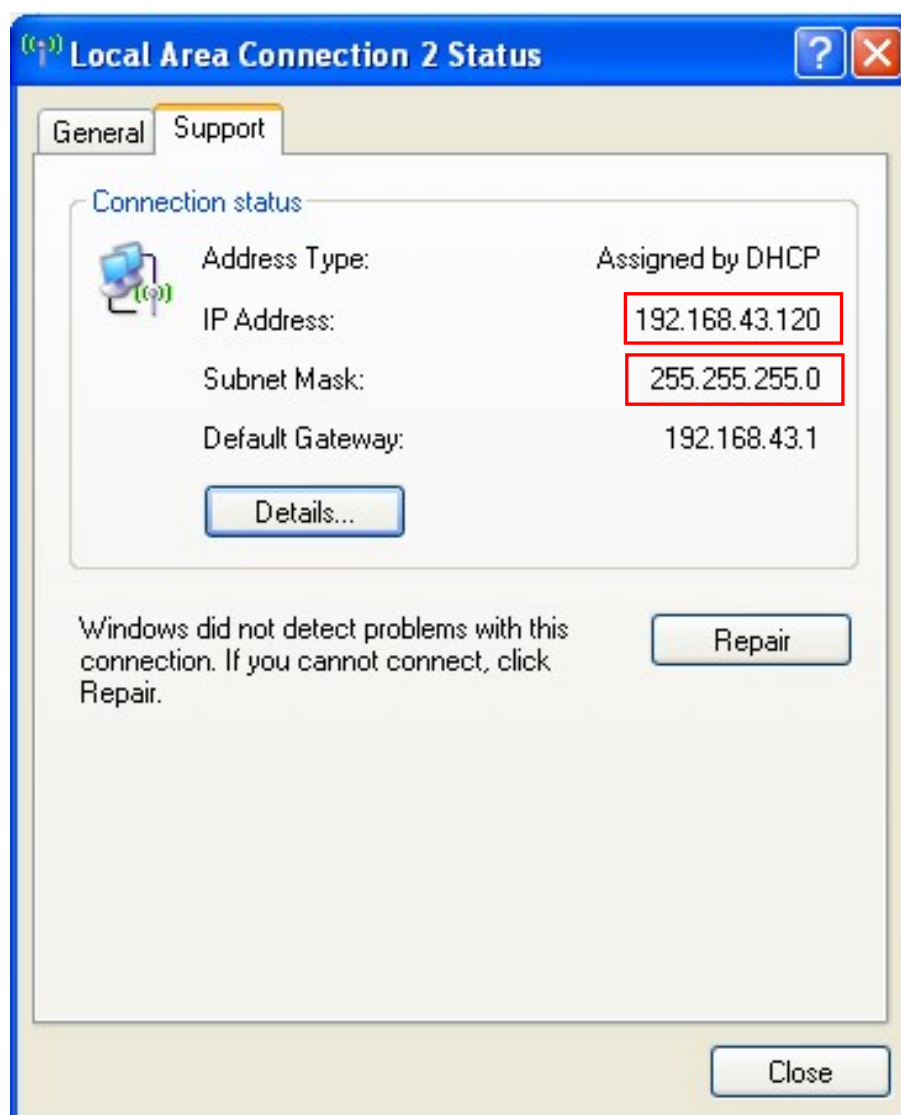

Figure 11
- (2) Figure 11 displays the IP address information of the current wireless networks. Please find out the corresponding wireless network segment according to this IP address and set the printer IP with different IP address in the same segment.
In Figure 11, the IP Address is 192.168.43.120 and the segment is 192.168.43. Please do not fill in this IP Address in the item of "Printer IP" directly.
- Subnet Mask** Set the subnet mask of the printer Wi-Fi interface. It is suggested that the subnet mask should be the same with the wireless networks. (Check the subnet mask in figure 11)
Fill in the corresponding segment according to the wireless network IP address you find out in figure 11.